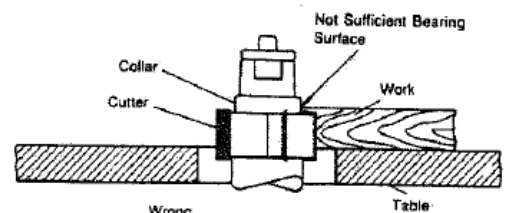

Fig. 11
- A portion of the work's edge must remain untouched by the cutter so that the collar will have sufficient bearing surface. See Fig. 11 for an example of insufficient bearing surface.